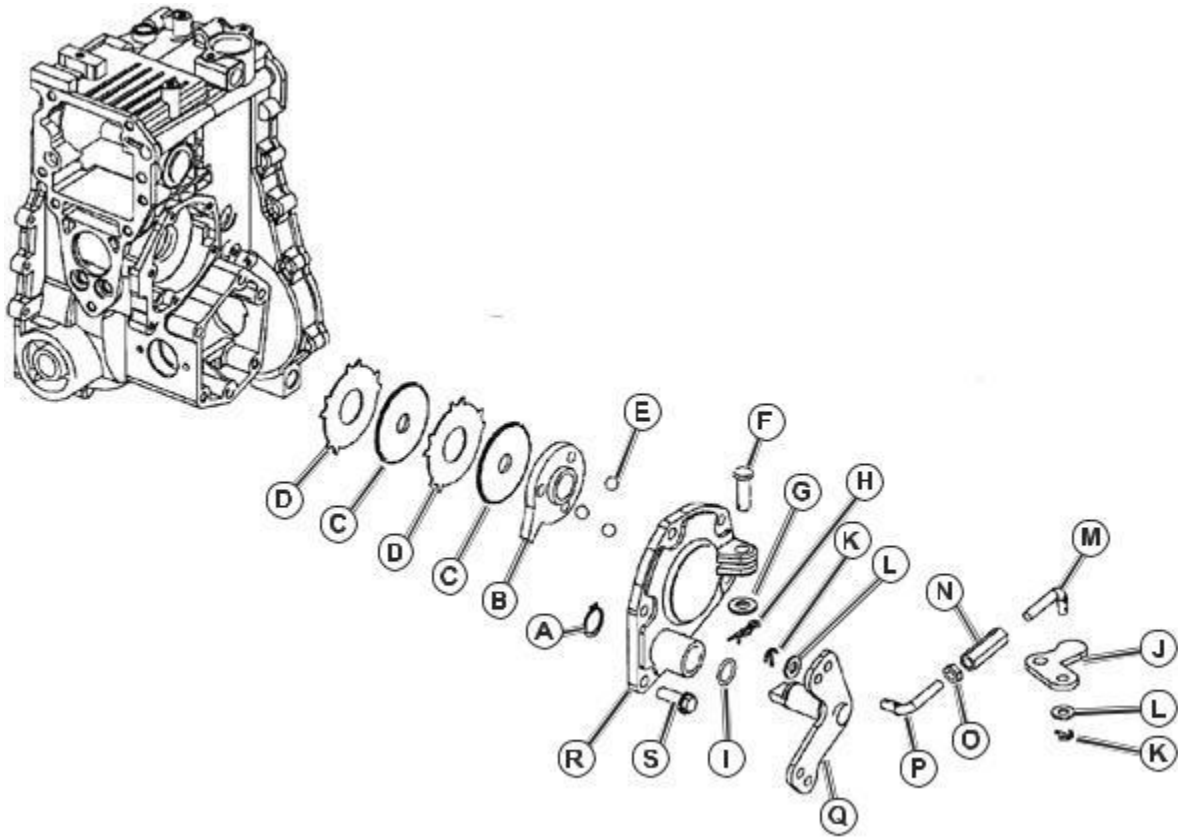

Fig. 78, Brake Disassembly
1. Inspect components on brake cover (R). Replace as nec-essary. Apply petroleum jelly to O-ring. (Fig. 78)
3. Apply petroleum jelly to balls (E) and install balls in cover.
4. Install steel plates (D) and friction plates (C) alternately beginning with a steel plate.
6. Install brake actuator plate (B) and brake cover assembly (R).